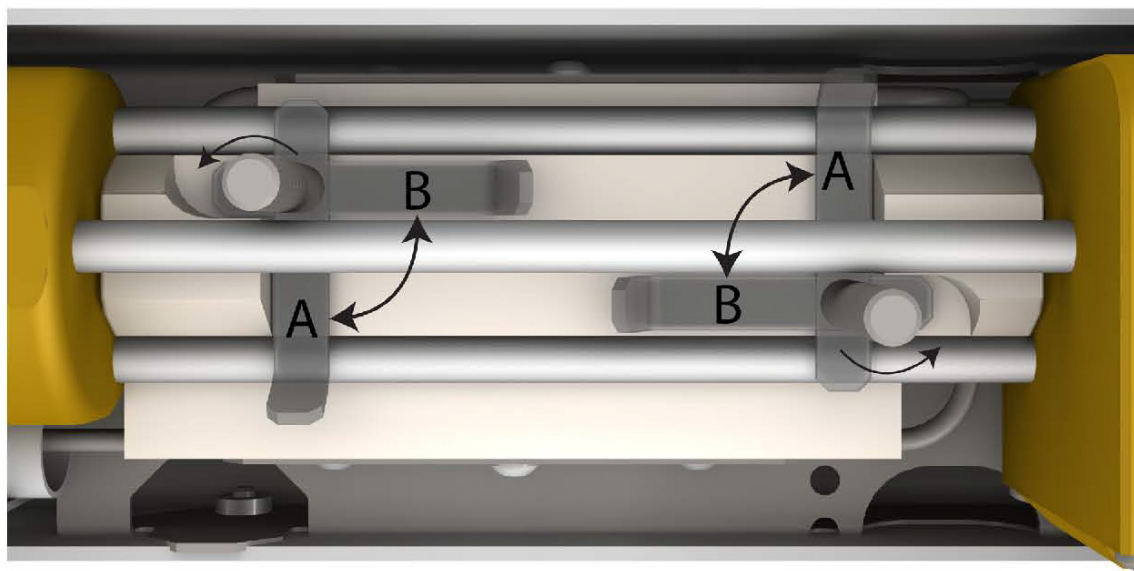

FIGURE 9-7. Thumbscrews above sample cell allowing latches to be spun from position A to position B, freeing struts of analyzer.
3. Loosen the thumbscrew on the cable clamp at the back of the analyzer to release the cable, and loosen the two long thumbscrews found above the sample cell. Rotate the latches so that the struts on the analyzer are free to move upwards. See FIGURE 9-7.